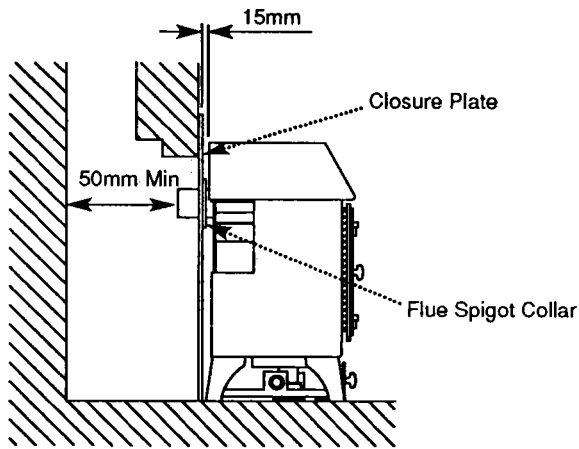

Fig. 6
4.3 Rear Flue Outlet Stoves (Fig. 6)